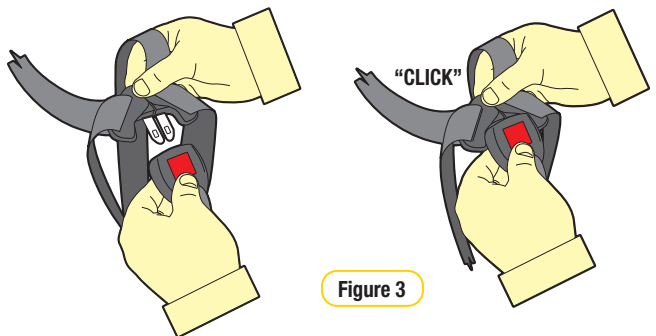

Figure 3
- Step 3:** Engage and disengage the Harness Tongues and Buckles several times until a strong audible **“CLICK”** is heard when inserting the last tongue (refer Figure 3).